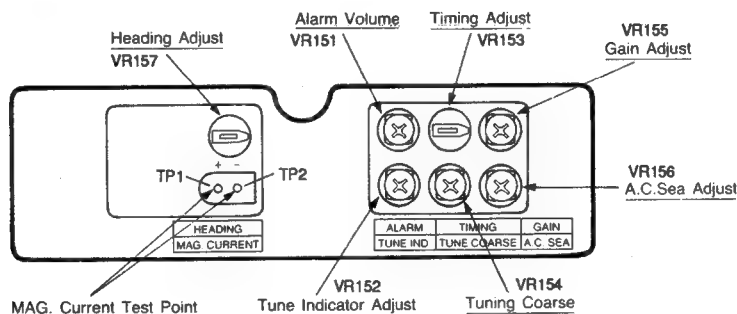

Fig. 51
- (1) Operate the radar in the 24-mile range.
- (2) Turn the gain control clockwise and the A.C. Sea clutter knob counterclockwise on the display unit as far as they will go.
- (3) Press the FUNC and IR keys to turn off the interference rejection (IR) mode. Some noise will now appear on the screen. If not, adjust VR155 on the adjustment board (Refer to Fig. 51).
- (4) Check that the noise disappears from the screen when the gain knob position is set to within the 2 to 4 o'clock direction.
- 2) Use a multimeter (for DC voltage measurement) to measure the voltage between TP1 and TP2 on the adjustment board below the front panel of the display unit (Refer to Fig. 51).
Use VR151 on the adjust board to adjust the volume to an appropriate level (Refer to Fig. 51).